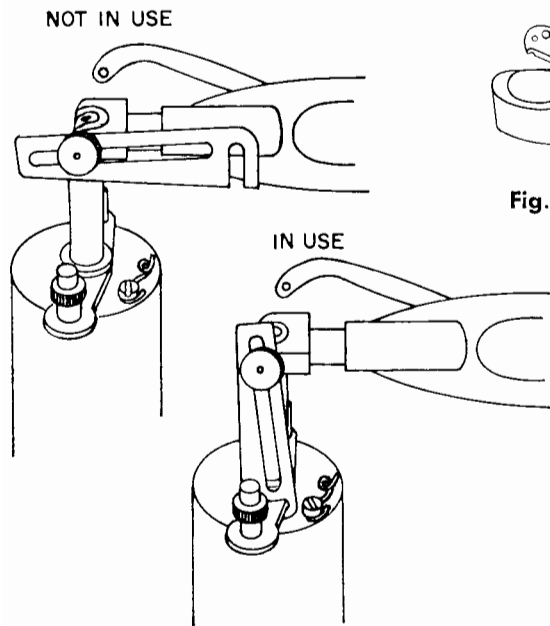

Fig. 308. The cross-stitch mechanism.
6. For a cross stitch, set the cross-stitch mechanism in the in-use position (Fig. 308).